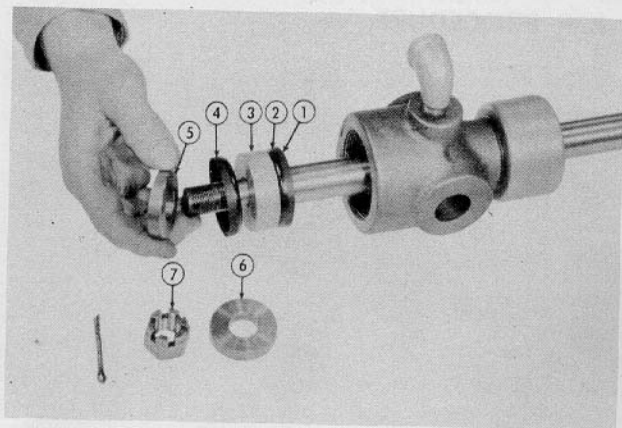

Fig. 20
Step 13—Install piston cup assembly on piston shaft, Fig. 20.
- a. Install washer (1) with rounded edge toward cylinder end of shaft.
- b. Install piston cup (2) over washer.
- c. Install aluminum spacer (3).
- d. Install piston cup (4) with cup face toward cylinder end.
- e. Install washer (5) with rounded edge toward cup.
- f. Install washer (6) tighten nut (7) and secure with cotter pin.